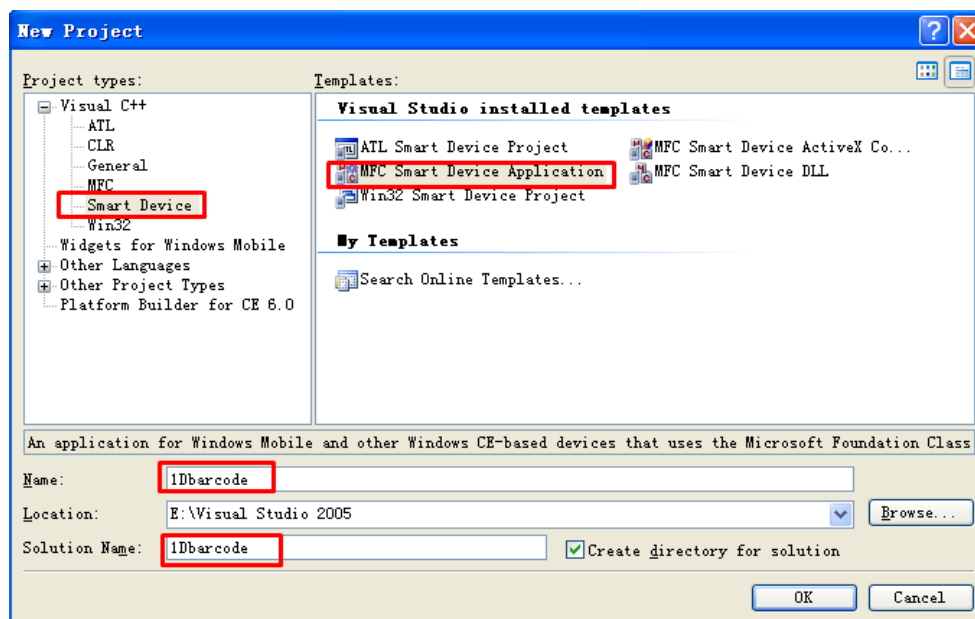

Figure6-1-11
2) Select it and you'll see the interface as Figure6-1-11.
3) Select **Smart Device** under **New Project** window, then select **MFC Smart Device Application** in **Templates** and input **project name** (such as 1Dbarcode), as shown in red sections in Figure6-1-11.